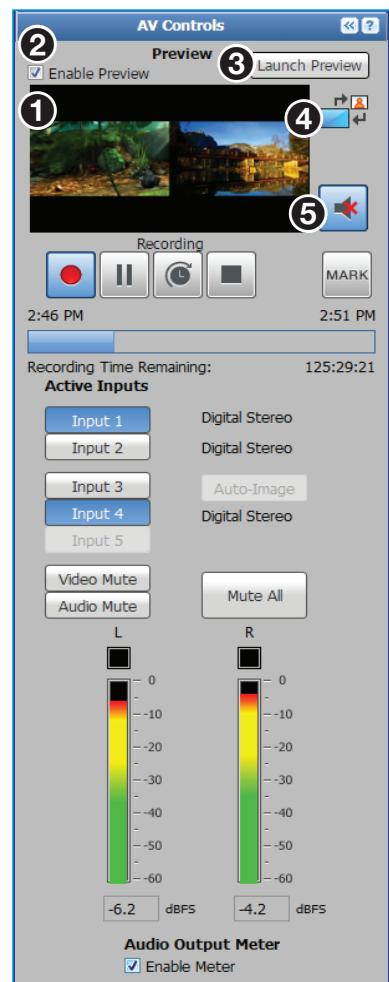

Figure 31. AV Controls Panel
- **Separate preview window** — To open the live preview in a separate, larger window, click the **Launch Preview** button (see **figure 31**, ③ on page 58) in the upper right corner of the **AV Controls** panel. When the separate live preview window opens, preview audio is enabled and the preview window within the panel is disabled. If you close the separate live preview window, select (check) the **Enable Preview** checkbox (②) again to display the preview stream within the panel.